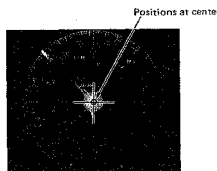

Fig. 5-20
- If the vector does not position at the center of vectorscope, press PG DN key twice to return to (15)-B-1, and repeat above procedure until vector positions at the center of vectorscope as shown in Fig. 5-20.